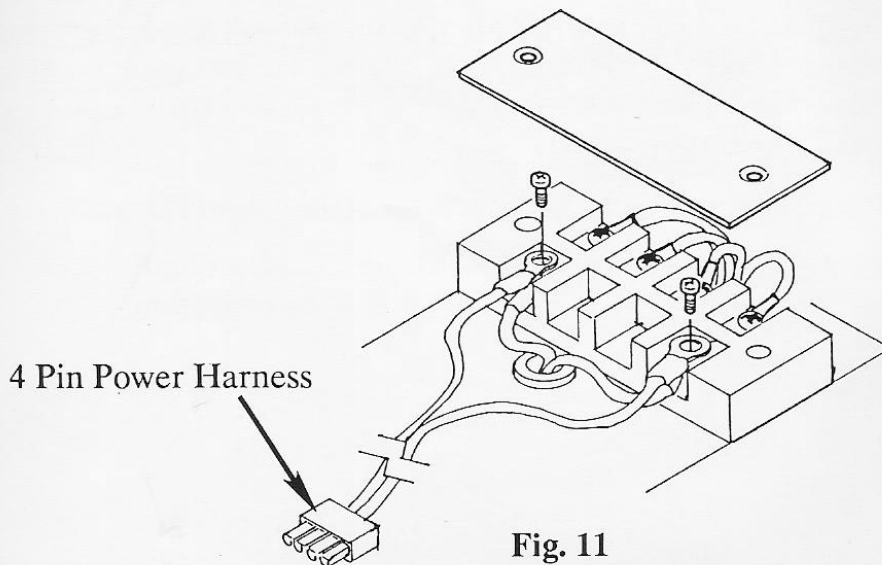

Fig. 11
- C. Now attach the power supply to the chassis by aligning it over the two (2) holes shown in Figure 11, and fastening it with two (2) #8 x 3/4" screws and #8 washers and two (2) screw tie-downs.
- A. Install the 4 Pin Power Harness (PT) to the power transformer terminal block (see Figure 11).